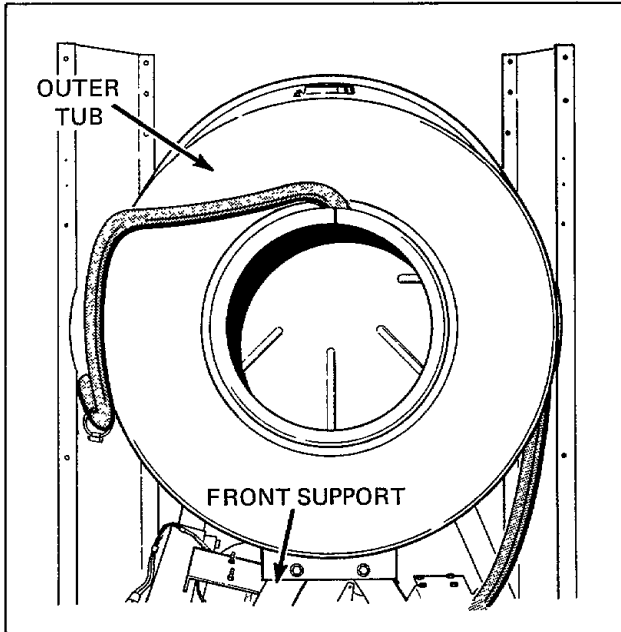

Figure 39
- n. Remove two screws, nuts, washers, and lockwashers holding outer tub to front support, *Figure 39*.